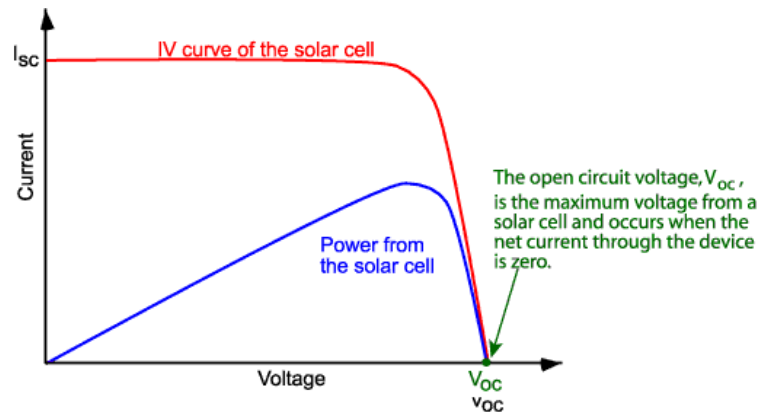
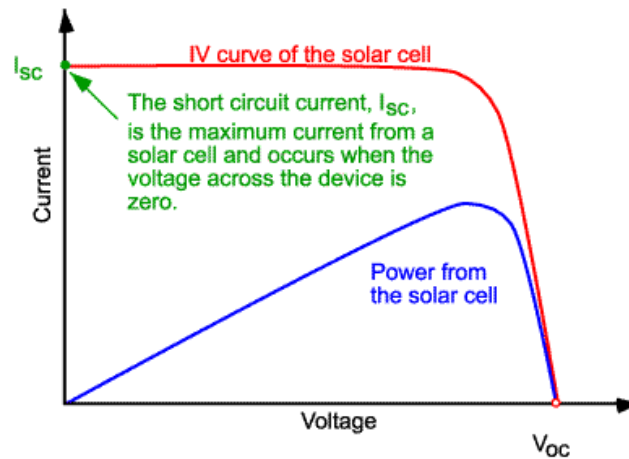

Figure 1.1: OC Voltage of Solar Cell [1]
Figure 1.2: SC Current of Solar Cell [2]
A PV module's performance is judged by its current-voltage (I-V) characteristic curve. As seen in figure 1.1 and figure 1.2 a few interesting points can be seen on the figures, namely the Open Circuit (OC) voltage and the Short Circuit (SC) Current (**insert fig here + reference**). The open circuit voltage can be defined as the maximum available voltage from one solar cell when no load is connected (this occurs at 0 current). The OC voltage is useful when you want to calculate how many solar modules(panels) you can connect in series which will connect to your inverter or charge controller. SC Current is how much current the solar cell is pulling when the voltage across the cell is 0, this can be measured when the positive and negative terminals are connected directly to each other. This SC current will be the maximum amount of amps that the solar cell will produce and can be used to determine how many amps connected devices can handle by multiplying with a 1.25 times scaling factor according to National Electrical Code (NEC) 80% requirements [5]. Typically a single PV cell has an OC voltage of around 0.5V to 0.6V at room temperature (25°C). <https://www.alternative-energy-tutorials.com/photovoltaics/photovoltaic-panel.html>